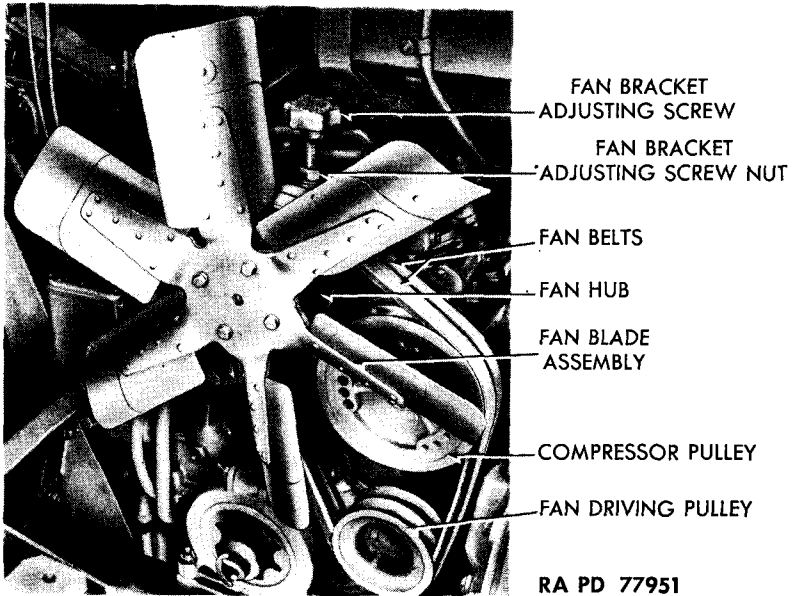

Figure 42 — Fan and Belts Installed
(1) DESCRIPTION (fig. 42). The fan is the roller-bearing type mounted on a bracket at front of engine and belt driven by a pulley on the engine accessory shaft.
(2) TABULATED DATA.
(5) **REMOVE FAN BLADE ASSEMBLY** (fig. 42). Remove four cap screws that secure fan blade assembly to fan hub. Lower fan blades through space between radiator and motor. Take off gasket.
(1) **INSTALL FAN HUB AND PULLEY** (fig. 42). Install fan hub and pulley by fastening bracket to engine with three hex screws and one slotted countersunk screw. Install fan belts.
(2) **INSTALL FAN BLADE ASSEMBLY** (fig. 42). Install fan blade assembly, using a new gasket, and secure assembly to hub with four hex screws. Turn fan adjusting screw to tighten fan belts until they have 1/2-inch play. Tighten fan adjusting screw lock nut. Tighten fan bracket clamp nut.
(1) **DESCRIPTION** (fig. 42). Two V-type fan belts are mounted on grooved pulleys connected to fan, air compressor, and accessory drive shaft, and drive the fan and air compressor. Belts are rubber and fabric composition.
b. **Adjustment** (fig. 42). Loosen fan bracket adjusting screw nut, and fan spindle jam nut. Turn fan bracket adjusting screw clockwise to tighten, counterclockwise to loosen. Deflection permissible is between 1/2 inch and 3/4 inch. After adjustment is made, tighten bracket adjusting screw nut and spindle jam nut.
c. **Removal** (fig. 42). Loosen bracket adjusting screw nut and spindle jam nut, and turn adjusting screw to force spindle down. Lift belts from pulleys.
d. **Installation** (fig. 42). Position belts on pulleys. Turn adjusting screw until belts can be flexed from 1/2 inch to 3/4 inch at mid-position when pressed with fingers. Tighten adjusting screw nut and spindle jam nut.